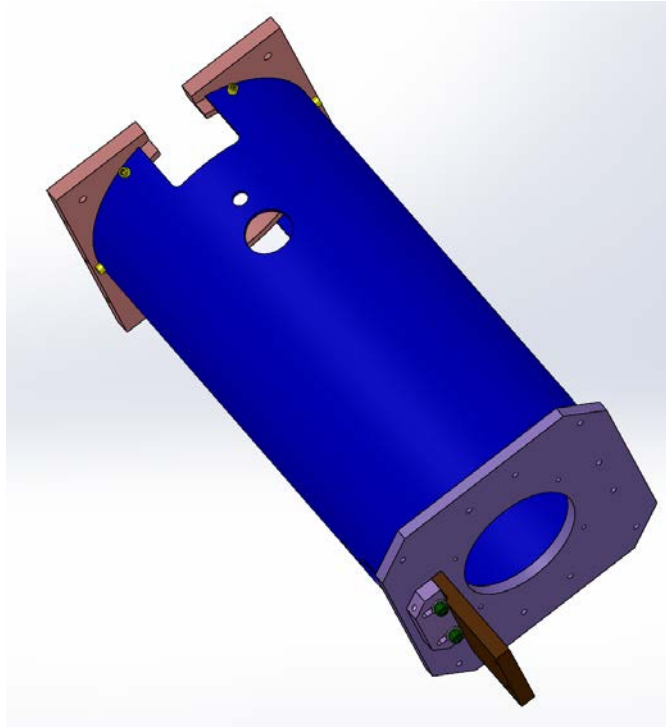

Figure 20: Copper Plate location
4. Loosely attach D1000929 - SLC COPPER SUPPORT PLATE to D1002617 - SLC DAMPING TUBE LOWER PLATE in orientation shown in Figure 20. Fasteners will be tightened in Section II.E.12.